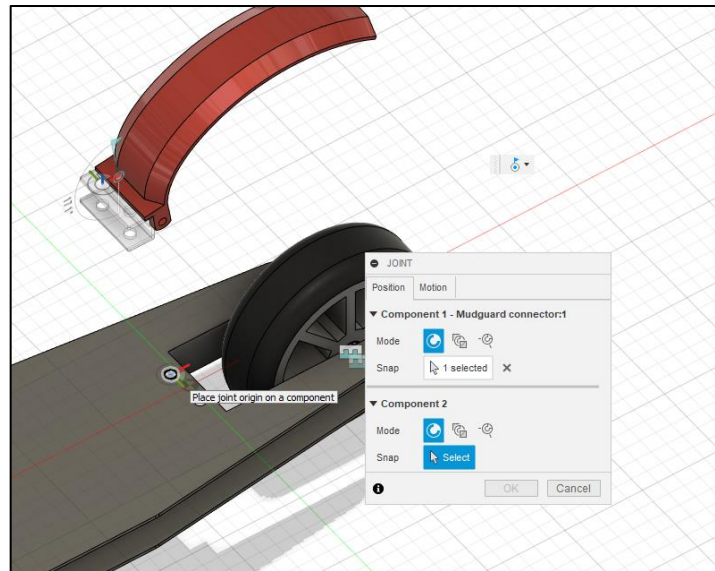

Figure 25. Jointing mudguard to the deck.
4. Use the join function again to assemble the rear mudguard. Select the face of one of the holes on the mudguard as “Component 1” and the corresponding hole of the deck as “Component 2”. Set motion to “Rigid”. (Figure 25)